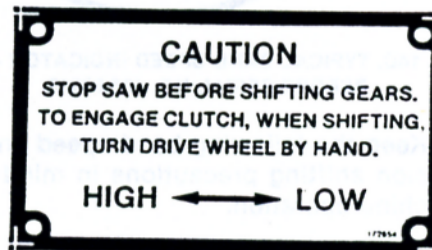

FIG. 14A. TRANSMISSION SHIFT LEVER ESCUTCHEON.
- (1) Transmission shift lever, band speed indicator and variable speed handwheel are located on machine frame below right worktable edge.
- (2) Operator selects between low and high band speed ranges by moving transmission shift lever. Move lever to the left for high range speeds -- 950 to 5200 fpm (292 to 1584 m/min); move lever to the right for low range speeds -- 55 to 300 fpm (17 to 90 m/min). See Fig. 14A.